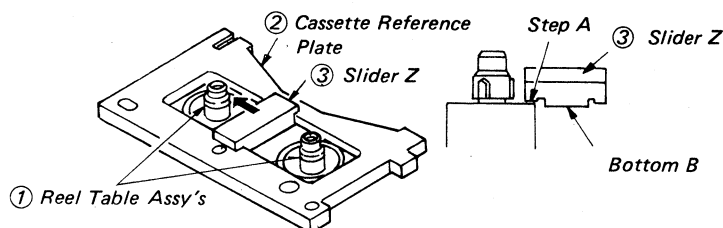

Fig. 5-28 Checking Reel Table Height.
2. Mount a cassette reference plate (2) in place on the reel drive chassis as shown in Fig. 5-28.
3. Make certain that when the slider Z (3) on the cassette reference plate (2) is slid right and left in the arrow (\rightleftarrows) direction, step A of the slider Z will not touch each reel table assembly (1), but the bottom B will catch it.